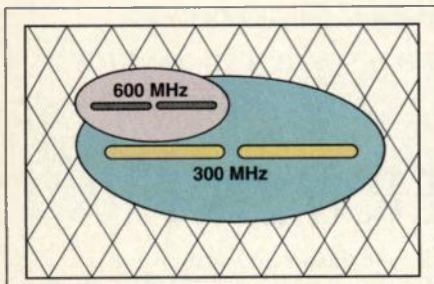

Figure 1. Antenna capture area.
Because a resonant dipole is a half wavelength long, it will be 0.50 meter long at 300 MHz and 0.25 meter long at 600 MHz. (The effect of antenna construction on its length will be ignored for simplicity.) The electrically active area around the antenna (or "capture area") will be shaped somewhat like Figure 1 so that the area (length × width) of the 300 MHz antenna will be four times (22) that of the 600 MHz antenna. AF takes this effect into account.